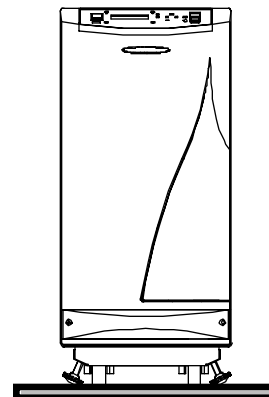

Fig. 3-2 HANDLING (FRONT VIEW)
- The unit is fitted with wheels for moving it over a short distance. It is stabilized by four feet at both side. For safety reason, please secure the unit by releasing the feet. Refer to Fig.3-2.